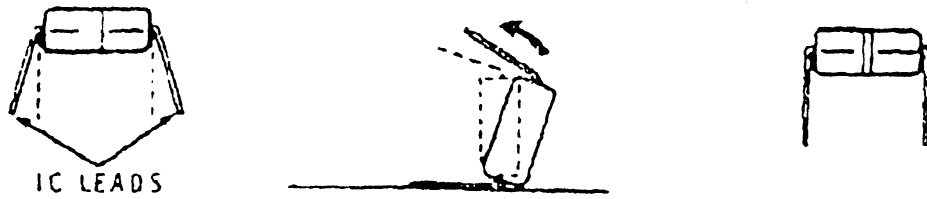

FIGURE 4
1. The pins on the new EPROM may be bent out at an angle as shown in Figure 4. Do not try to install the EPROM without first bending the pins inward, or the pins may be damaged. Lay the EPROM on its side on a hard flat surface as shown, and carefully roll it toward the pins to bend the lower pins into line. Then turn it over and bend the pins on the other side in the same manner.